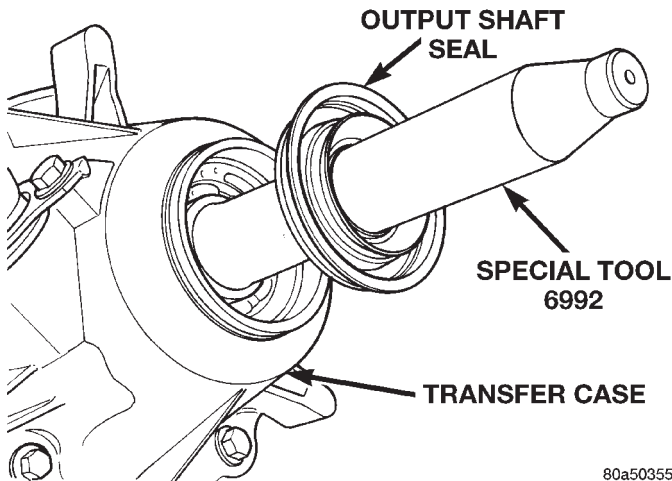

Fig. 88 Output Shaft Seal and Protector
- (4) Apply bead of Mopar® Sealer P/N 82300234, or Loctite™ Ultra Gray, to mating surface of rear retainer. Sealer bead should be a maximum of 3/16 in.
- (5) Install rear retainer on rear case. Tighten retainer bolts to 20–27 N·m (15–20 ft. lbs.) torque.
- (6) Install rear bearing I.D. retaining ring and spacer on output shaft.
- (7) Apply liberal quantity of petroleum jelly to new rear seal and to output shaft. Petroleum jelly is needed to protect seal lips during installation.
- (8) Slide seal onto Seal Protector 6992 (Fig. 88). Slide seal protector and seal onto output shaft.